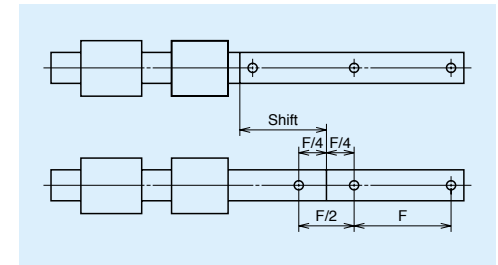

Fig. III -7-4
- The pitch of the rail mounting holes on a butting section should be as F/2 shown in Fig. III -7-4. When these rails are used in a parallel arrangement, the butted sections should not align to avoid change in the running accuracy of the table at these sections.